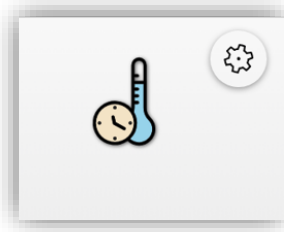

Figure 120. Chronothermostat box
- **Enablement** [*0 = Disable; 1 = Enable / 0 = Enable; 1 = Disable*]: selects the polarity of the control object "[Ci] Chronothermostat - Enable", which will enable or disable the chronothermostat analogously as from the on-screen switch button of the box (see Figure 120). The box configured as a chronothermostat control looks as follows: